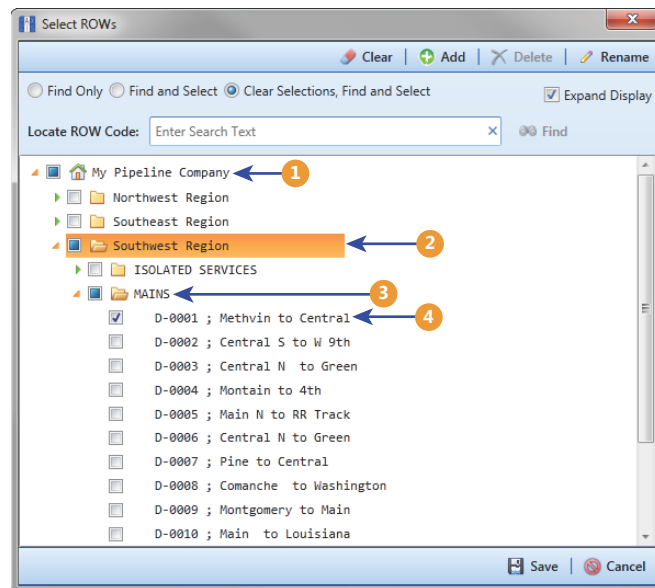

Figure 2-2. Example of Hierarchy Structure
PCS Axis supports a hierarchy structure with up to five (5) levels. The top hierarchy level includes either your company's name or other type of descriptor. The following figure shows a hierarchy structure with three (3) hierarchy levels (Figure 2-2).